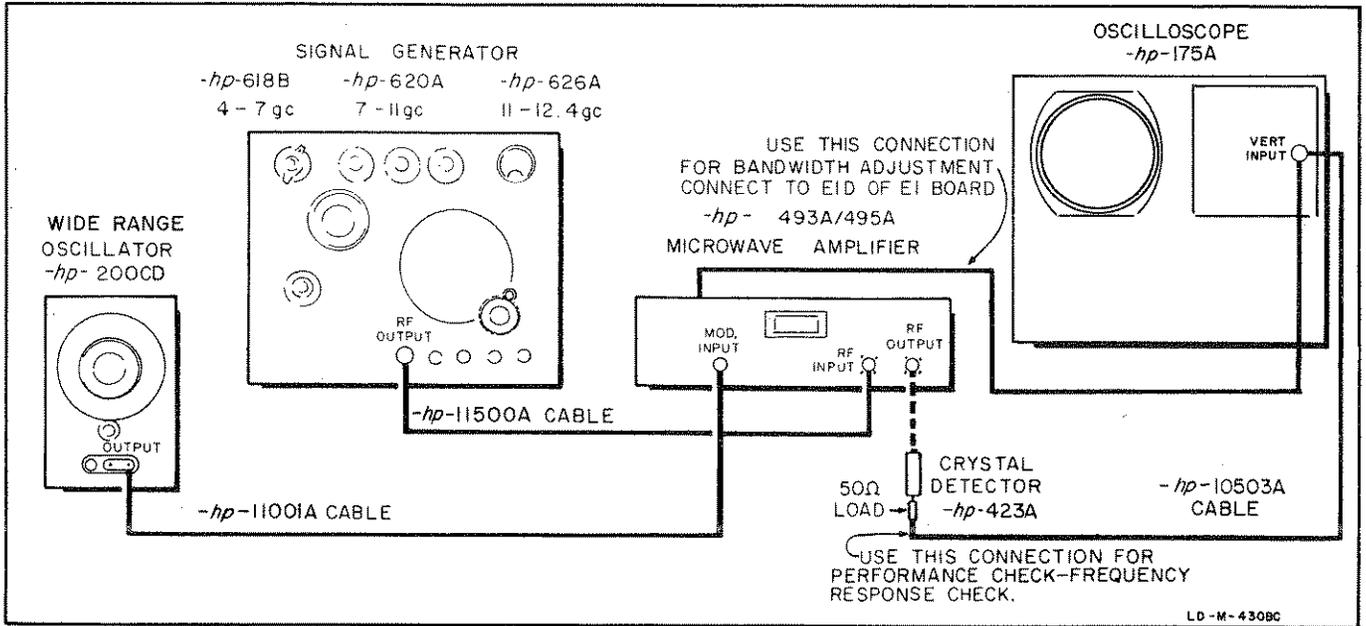

Figure 5-7. Bandwidth Setup
- a. Connect the Model 493A as shown in figure 5-7.